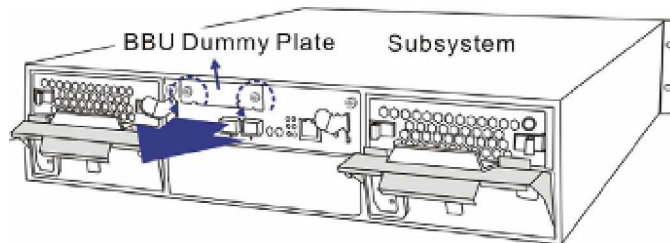

Figure 2-10: Removing the BBU Slot Dummy Plate
-  **Step 1.** *Remove the BBU slot dummy plate from the chassis* by loosening the two (2) retention screws on the sides of the BBU slot dummy plate, then pulling the dummy plate off of the chassis. (See **Figure 2-10**)